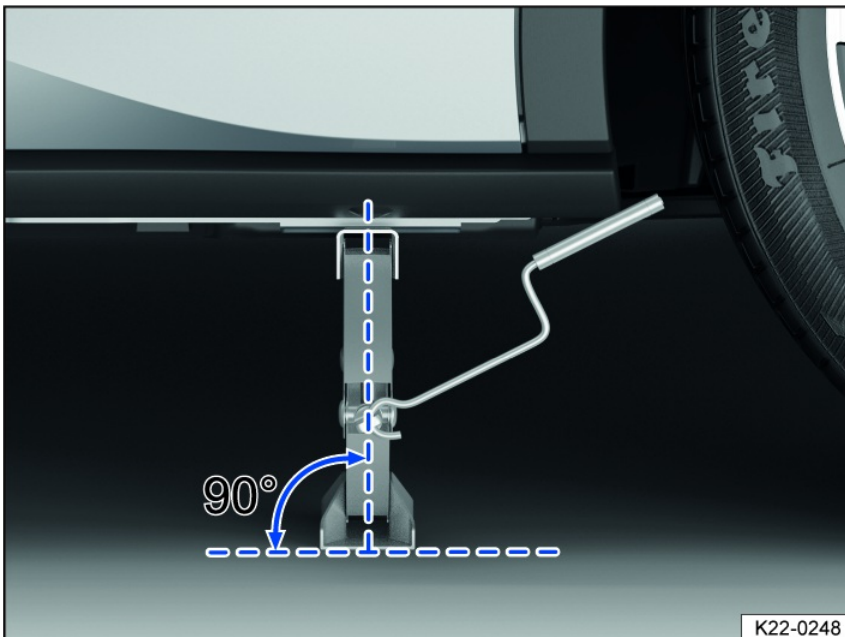
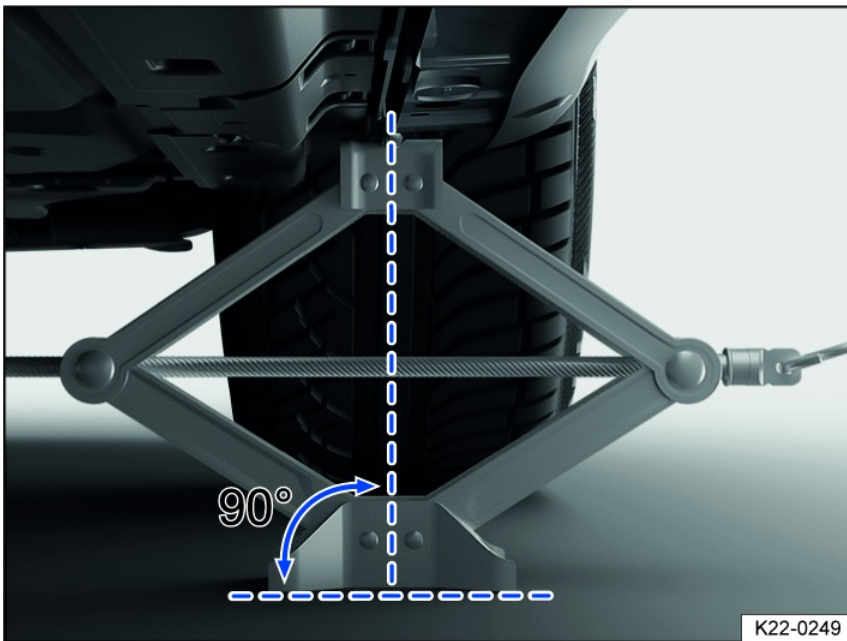

Fig. 172 Correct jack setup.
Fig. 173 Jack is positioned on the left side of the vehicle at the rear.
4. Make sure the entire base of the jack is seated securely on the ground and that the base of the jack is located exactly directly below the lift point *fig. 172* and *fig. 173*.
5. Straighten the jack and continue cranking the claw on the top of the jack upward until the claw is positioned on the jacking point under the vehicle *fig. 173*.
- Only place the vehicle jack at the lift points described. The bracket on the vehicle jack must firmly grip the sill *fig. 173*.